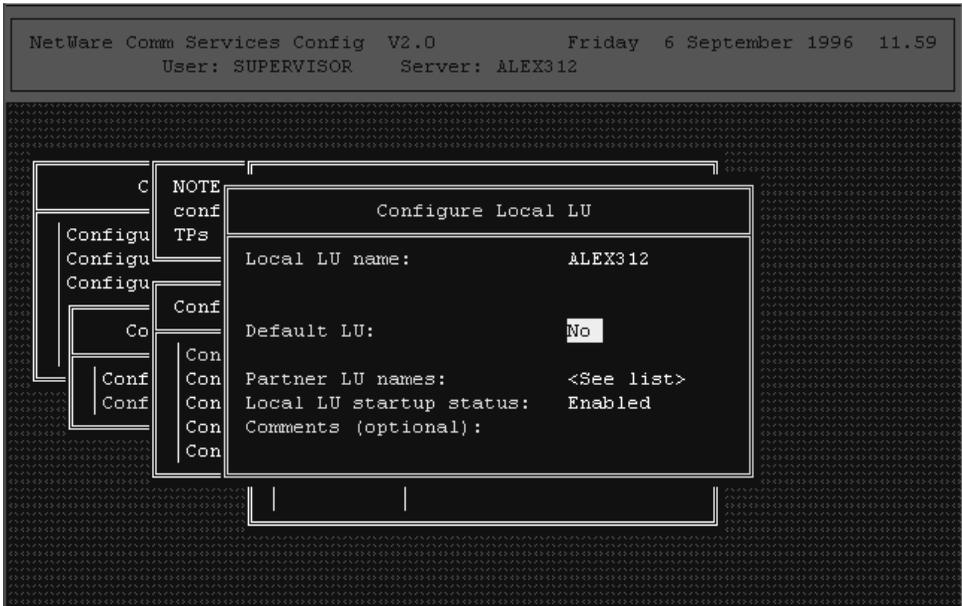

Figure 22. Entering the Local Logical Unit name
- 4 Enter the local LU name of the NetWare server, as shown in Figure 22 on page 101.